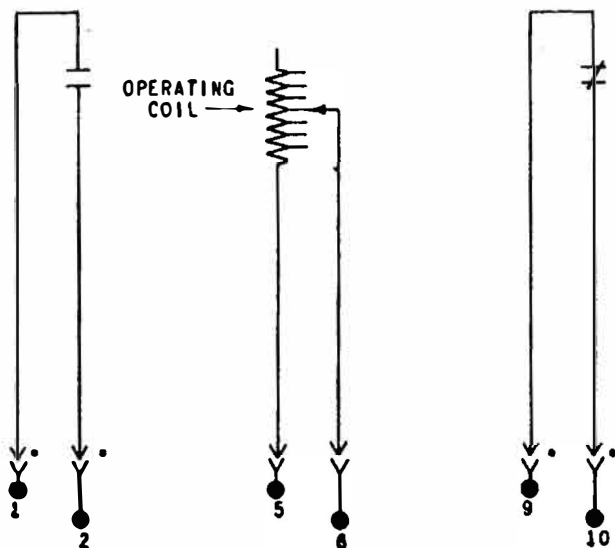
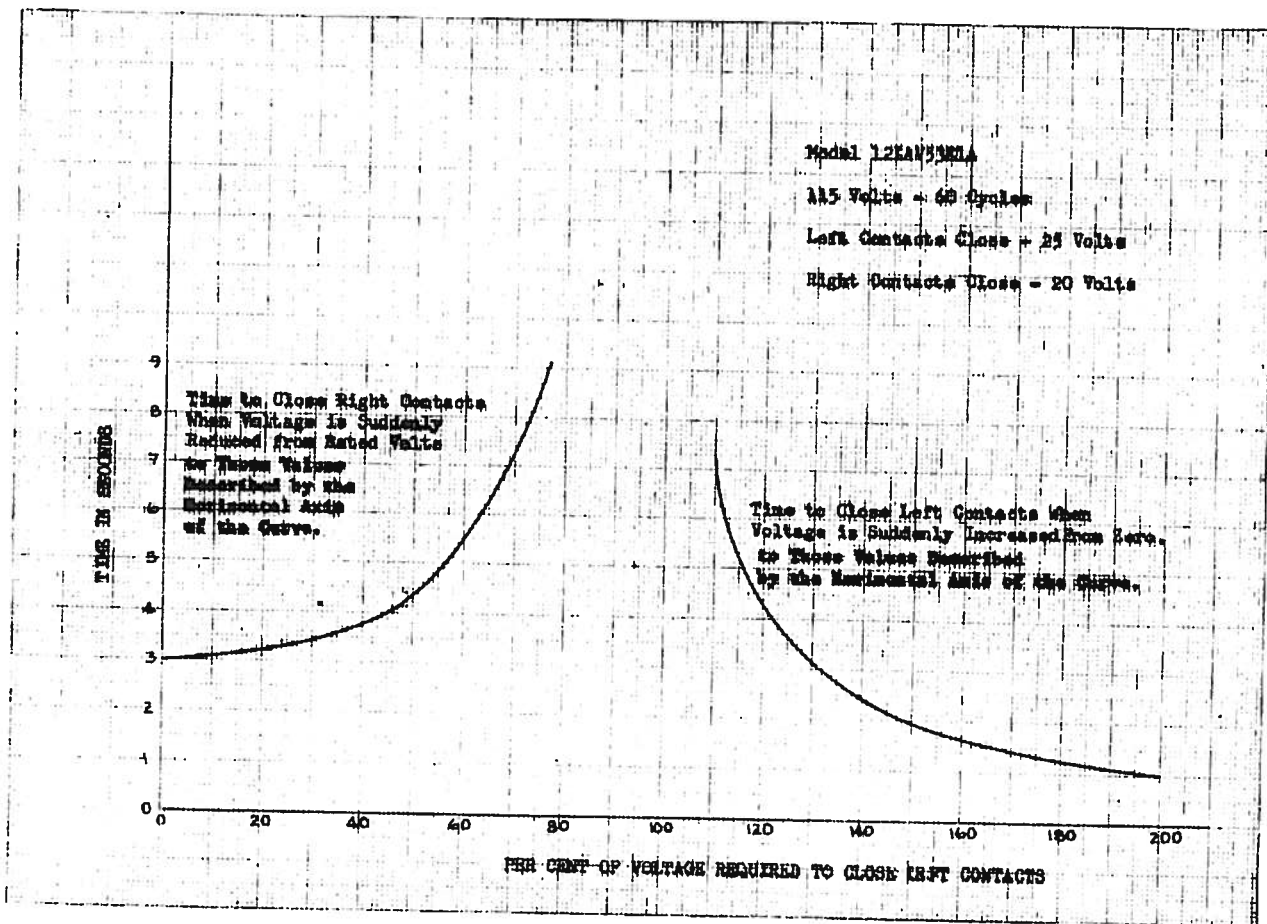

Figure 1 (K-6400143[2]) Internal-Connection Diagram
Figure 2 (K-6375689) Typical Time-Voltage Curves for Type-IAV53E Relays ($\pm 10\%$)
The Type-IAV53E relay has one open and one closed contact, and is similar to the Type-IAV53 relay described in the included instructions, GEH-1814, except the operating coil has no taps and the seal-in units are omitted. The relay is adjusted to close its left contacts at 25 volts and its right contacts at 20 volts. With this calibration, the relay closes its right contacts in 3 seconds when the voltage is suddenly reduced to zero (0). A typical time-voltage curve is shown in Figure 2. The internal connections are shown in Figure 1.